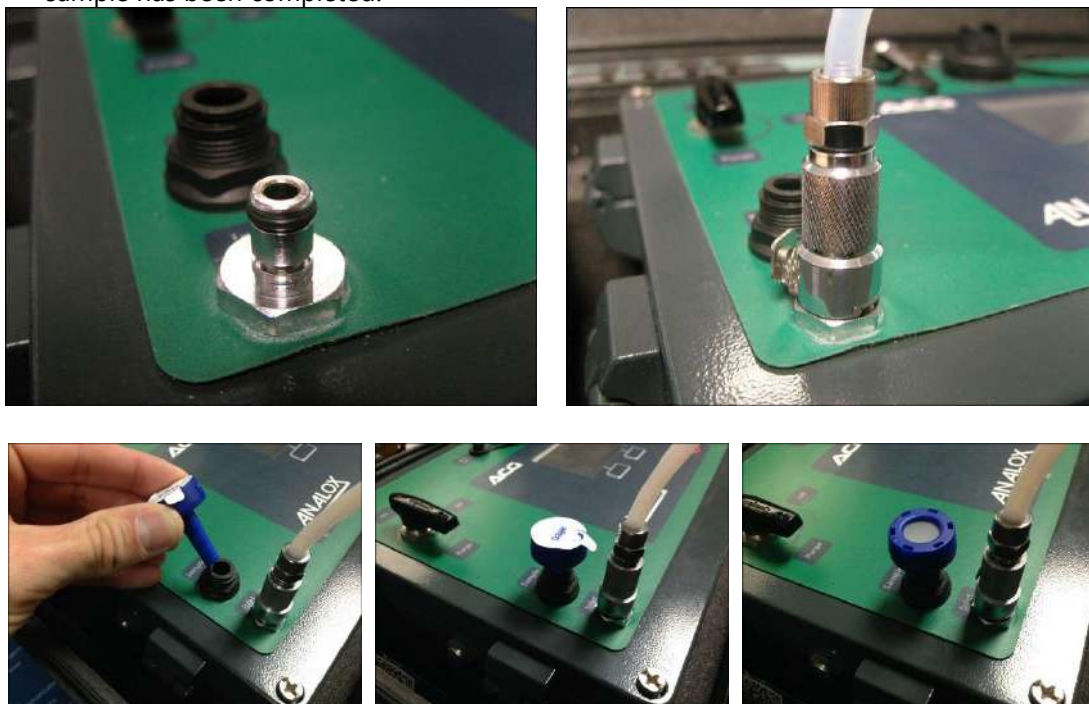

Figure 39 *A Dräger Impactor Attached to the Outlet Port for Oil Mist Testing*
- 1]** Attach the target gas to the sample inlet and the measurement device or sample pipe to the gas outlet port on the ACG+ front panel (see Figure 39).